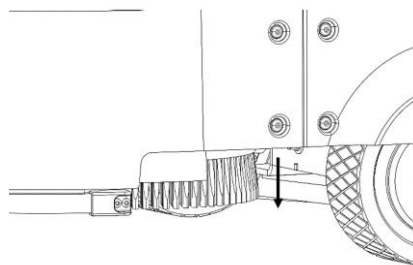

FIG.30
3. Hold the brush/pad driver with hand and apply downward force to make it drop off as shown in FIG.30.